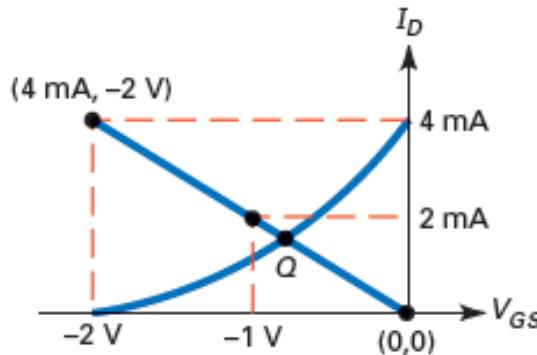

Figure-9 Self bias Q point
- When a JFET's transconductance curves are known, we can analyze a self-bias circuit using graphical methods. Suppose a self-bias JFET has the transconductance curve shown in Figure-9.
- We now have two points on the graph of Eq. (7). The two points are (0, 0) and (4 mA, -2 V). By plotting these two points as shown in Figure-9, we can draw a straight line through the two points as shown.
- In summary, here is a process for finding the Q point of any self-biased JFET, provided you have the transconductance curve. If the curve is not available, you can use the and I_{DSS} rated values, along with the square law equation (3), to develop one: